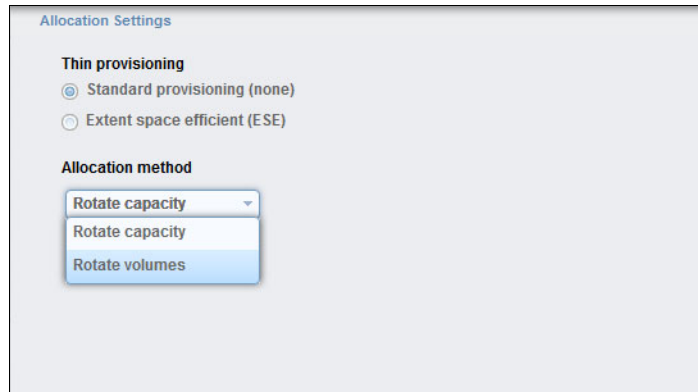

Figure 11-99 Create CKD Volumes: Advanced: Allocation Settings
- Click **Allocation Settings** to open the Allocation Settings window that is shown in Figure 11-99.